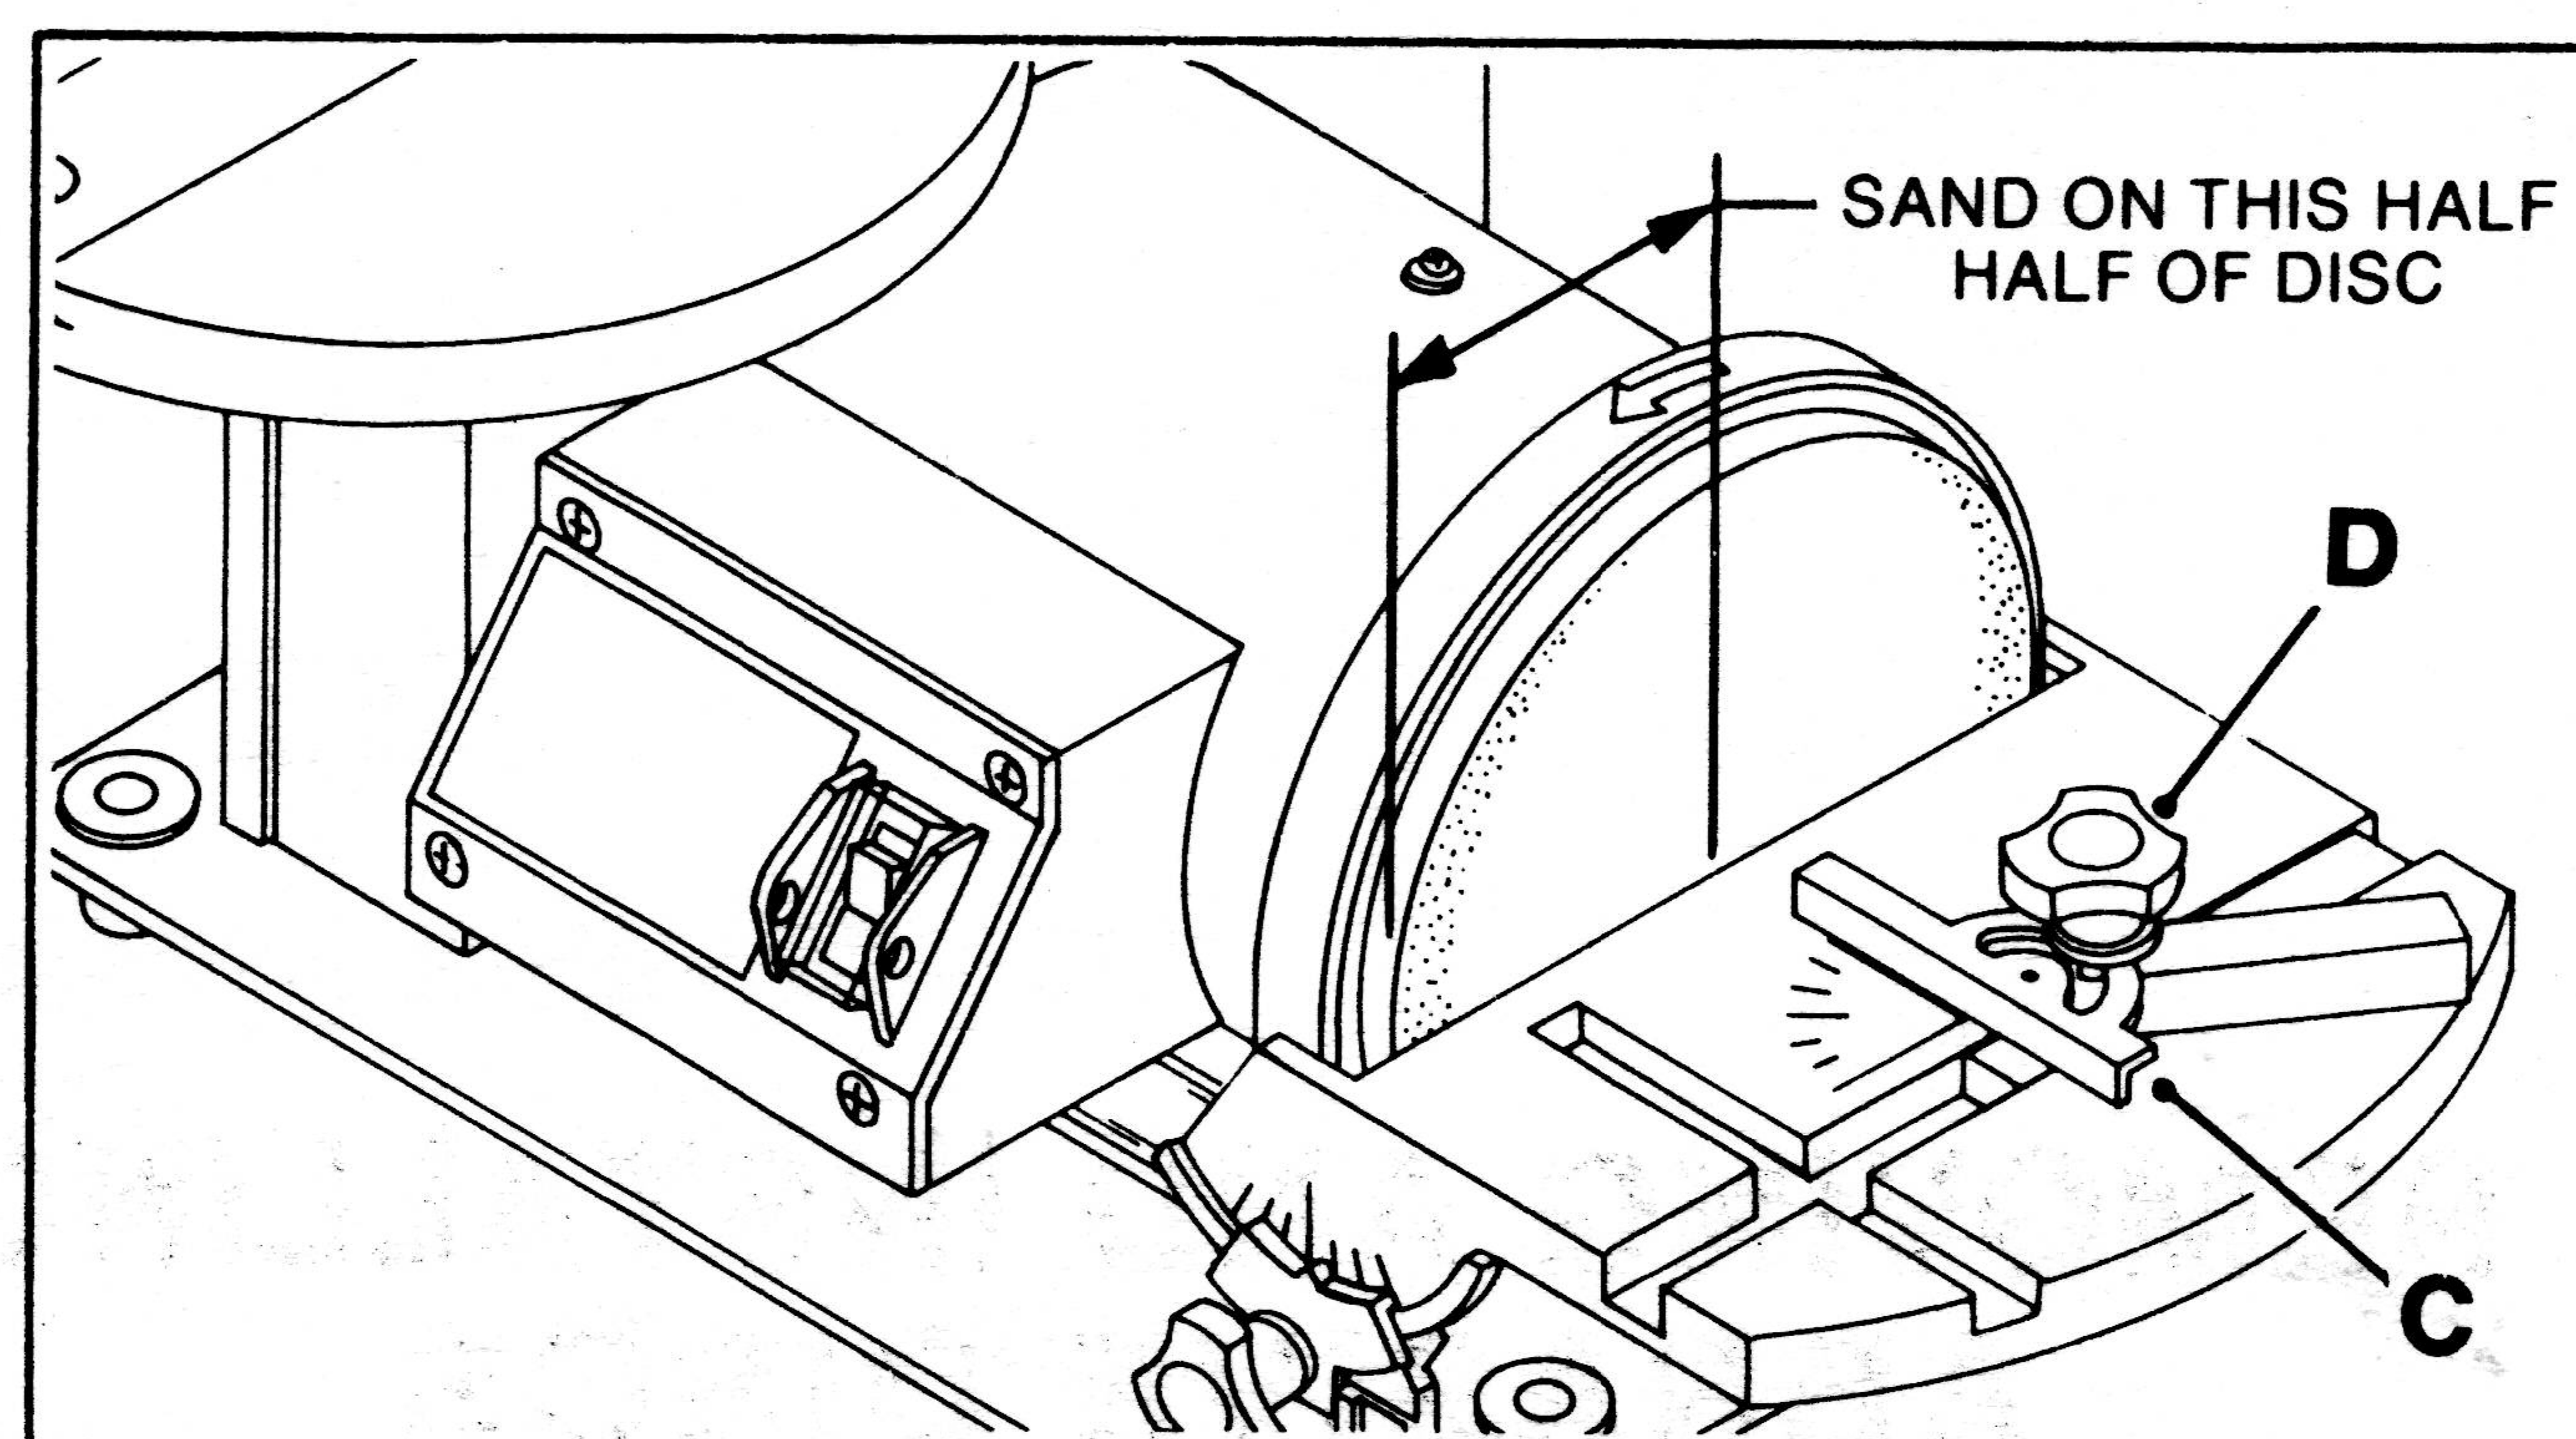

Fig. 16
Sanding is done only on the forward half of the disc as shown in Fig. 16 with the workpiece supported by the table. If you use the back half of the disc, dust and grit will be thrown up into your face and the workpiece can be pulled out of your hands resulting in painfully abraded fingers.
The miter gage (C) Fig. 16 is used for making most angles such as the corners of a picture frame. The angle setting on table should be used only for rough work. To make perfect joints such as required by picture framing, a protractor should be used to make settings. Adjustment are made by loosening adjustment knob (D) moving gage (C) to desired angle and tightening adjustment knob (D).